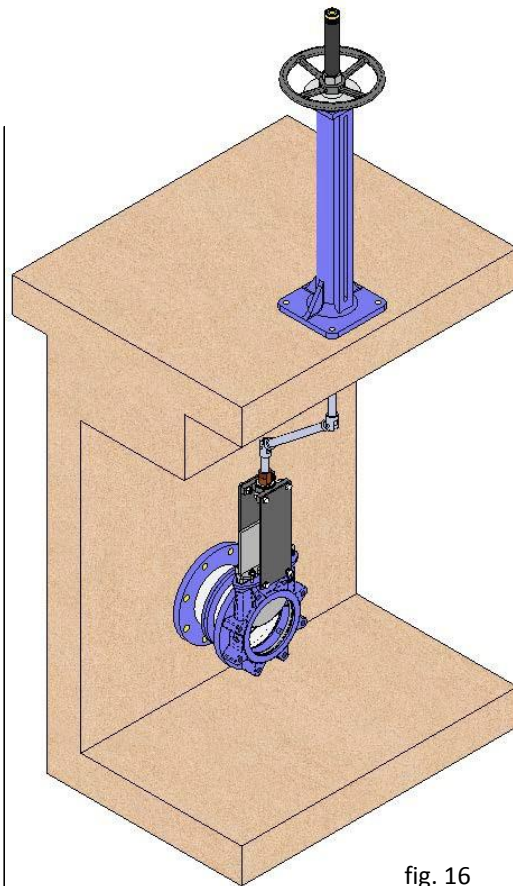

fig. 16
**4 - Extension: Cardan joint (Fig. 16)**